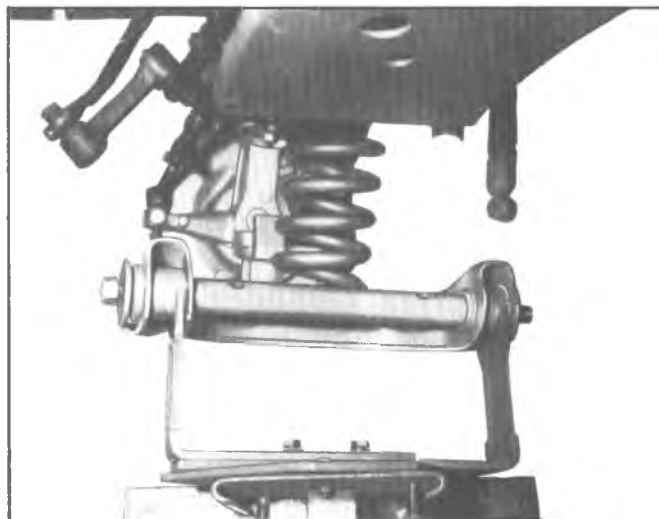

Fig. 33A—Lowering Control Arm for Bushing Replacement
#### Removal (figs. 33A and 33B)
7. Lower jack SLOWLY to release spring compression (fig. 33A) and gain clearance to remove bushings.